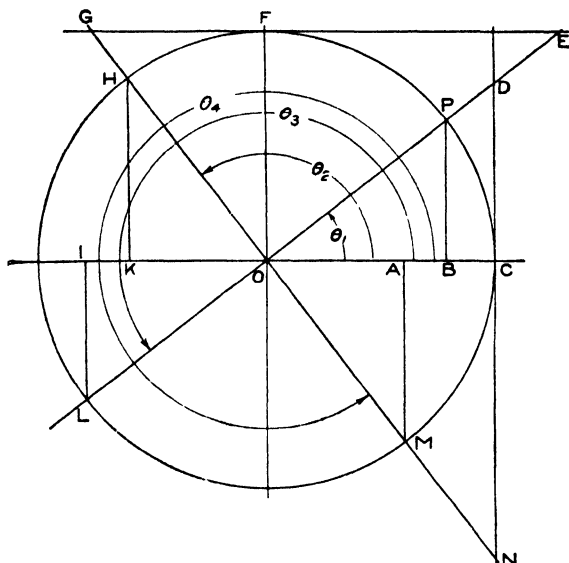

Fig. 7.
Let us choose r as a radius and describe the circle as in Fig. 7. Choose IC and FO as the axes of reference, with O the center of the circle, as the origin. Construct tangents to the circle at C and F . Draw IP and GO , producing them until they intersect the tangents at D , E , G and N . Let $\angle BOP = \theta_1$, $\angle BOH = \theta_2$, $\angle BOL = \theta_3$, and $\angle BOM = \theta_4$. Where the terminal lines of θ_1 , θ_2 , θ_3 , and θ_4 cut the circumference, drop the perpendiculars PB , HK , IL and MA .
The circle of Fig. 7 is known as the unit circle. We are not to understand that the trigonometric functions are lines. The functions are always ratios. But if we choose our unit of meas-
From the unit circle of Fig. 7 we may write :
The preceding definitions are given when θ is in the first quadrant. For an angle θ_2 in the second quadrant of Fig. 7,
Exercise. Determine the lines to represent the functions of θ_3 and θ_4 of Fig. 7 and show that the definitions of (6) hold true for angles in the third and fourth quadrants.
Exercise. Using the circle of Fig 7 trace each of the functions from 0° to 360° , and compare with the table of art. 25, Part I.